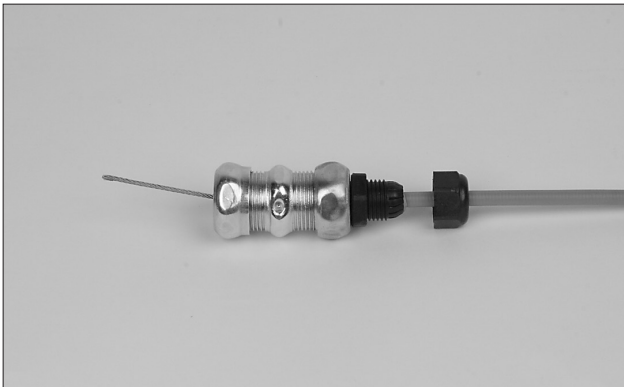

FIGURE 4-71
4. Install strain relief body into compression union and tighten. See Figure 4-71.